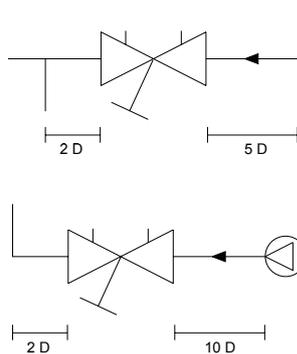

Figure 1
8. In order to insure the valve works properly, there need a straight pipe which length is not less than 5 times of pipe diameter at the water inlet, and 2 times at the water outlet. (See Figure 1)